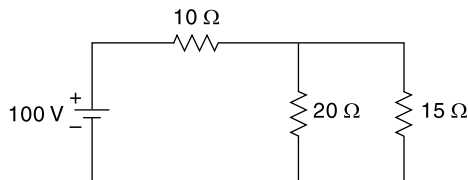

Fig. 4.85 Circuit of Ex. 4.58
4.58 Using Thevenin's theorem find the current through the $15\ \Omega$ resistor in Fig. 4.85.
Removing the $15\ \Omega$ resistor the open circuit voltage across a and b [Fig. 4.85(a)] is $V_{oc} =$